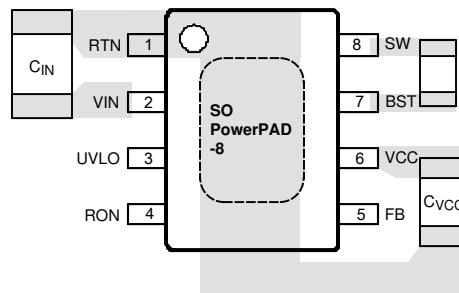

图 10-1. Placement of Bypass Capacitors
1. C_{IN} : The loop consisting of input capacitor (C_{IN}), V_{IN} pin, and RTN pin carries switching currents. Therefore, the input capacitor must be placed close to the IC, directly across V_{IN} and RTN pins and the connections to these two pins should be direct to minimize the loop area. In general it is not possible to accommodate all of input capacitance near the IC. A good practice is to use a 0.1- μ F or 0.47- μ F capacitor directly across the V_{IN} and RTN pins close to the IC, and the remaining bulk capacitor as close as possible (see 图 10-1).
2. C_{VCC} and C_{BST} : The V_{CC} and bootstrap (BST) bypass capacitors supply switching currents to the high and low side gate drivers. These two capacitors should also be placed as close to the IC as possible, and the connecting trace length and loop area should be minimized (see 图 10-1).